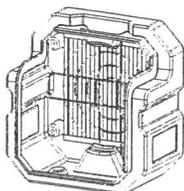
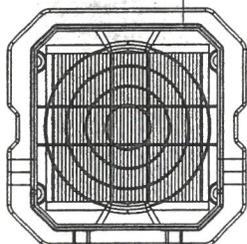

Figure 2.
Figure 3.
- Release the 2 side clamps and remove the filter access panel (Fig. 2).
- a. Access the pre-filter holder from the interior of the filter access panel (Fig. 2). Note the operating position and orientation of the assembled pre-filter (Fig. 3).